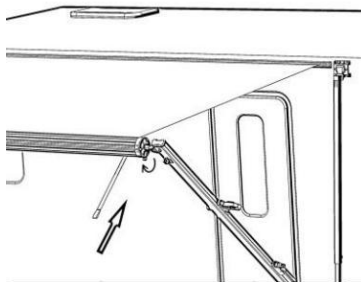

Figure D16
2.4 Pull the reel strap and gently move the ratchet lever in the direction of the arrow to switch the pawl direction to CLOSE slowly retract the reel until fully retracted. (Figure D16)